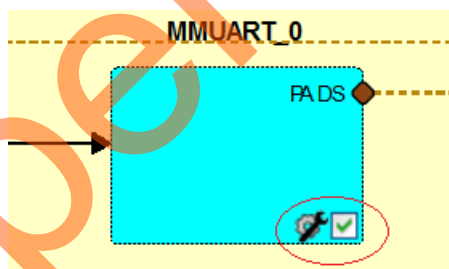

Figure 9 • Enabling the Peripheral
10. Disabled peripherals can be enabled by either selecting the check box in the lower right corner of the peripheral box or by right-clicking the peripheral block or selecting the **Enable** check box. An enabled peripheral is shown in Figure 9.